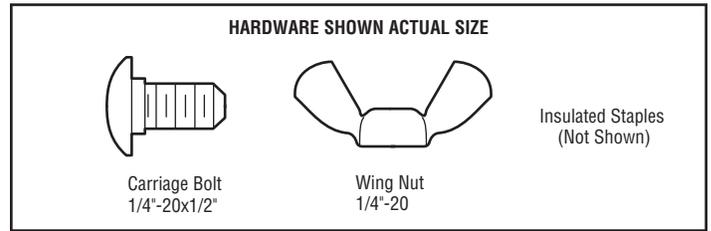

Figure 5
1. Slide a 1/4"-20x1/2" carriage bolt head into the slot on each sensor. Use wing nuts to fasten sensors to brackets, with lenses pointing toward each other across the door. Be sure the lens is not obstructed by a bracket extension (Figure 5).